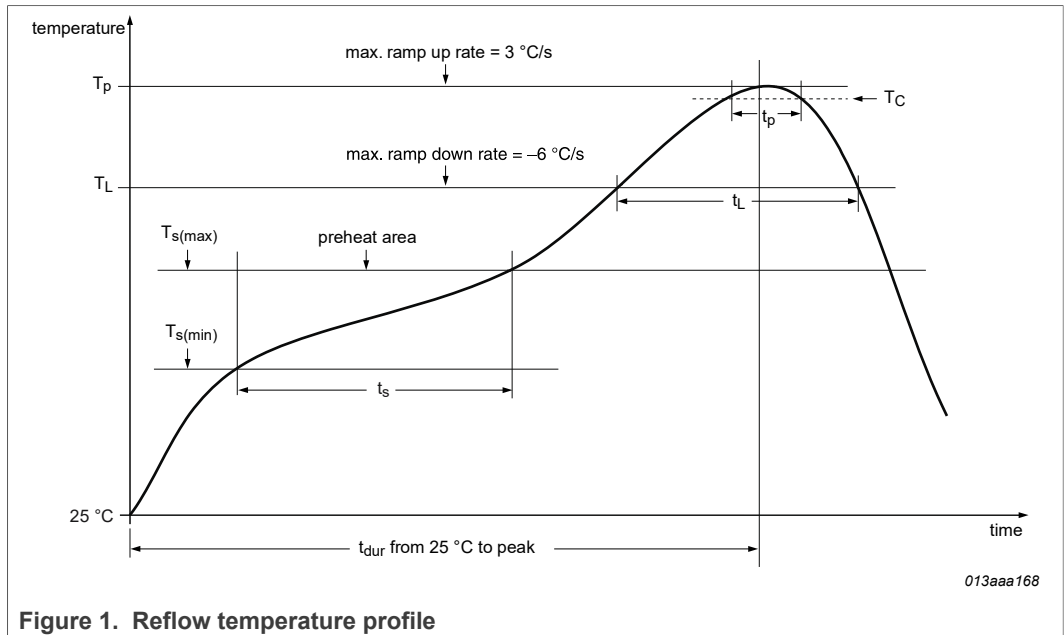

Figure 1. Reflow temperature profile
- Reflow temperature profile (see Figure 1; this profile includes preheat ( $T_s$ ), reflow (in which the board is heated to the peak temperature ( $T_p$ )) and cooling down. It is imperative that the peak temperature is high enough for the solder to make reliable solder joints (a solder paste characteristic). In addition, the peak temperature must be low enough that the packages and/or boards are not damaged.
Figure 1 shows the reflow soldering temperature profile according to [\[3\]](#), used for the qualification of the PCF2131 and PCA2131.
1. The reflow soldering profile shown in Figure 1 is recommended. A full convection reflow system, capable of maintaining the reflow profile of Figure 1, is recommended.
After one-time reflow soldering, processed in accordance with the recommended temperature profile shown in Figure 1 and Table 1, a frequency shift of -2 ppm is typical. Any other reflow temperature profile or multiple soldering may cause a different frequency shift after soldering. The frequency shift after soldering can be reduced by lowering the peak temperature  $T_p$  and shortening the time  $t_p$  of the soldering process (see Figure 1 and Table 1).